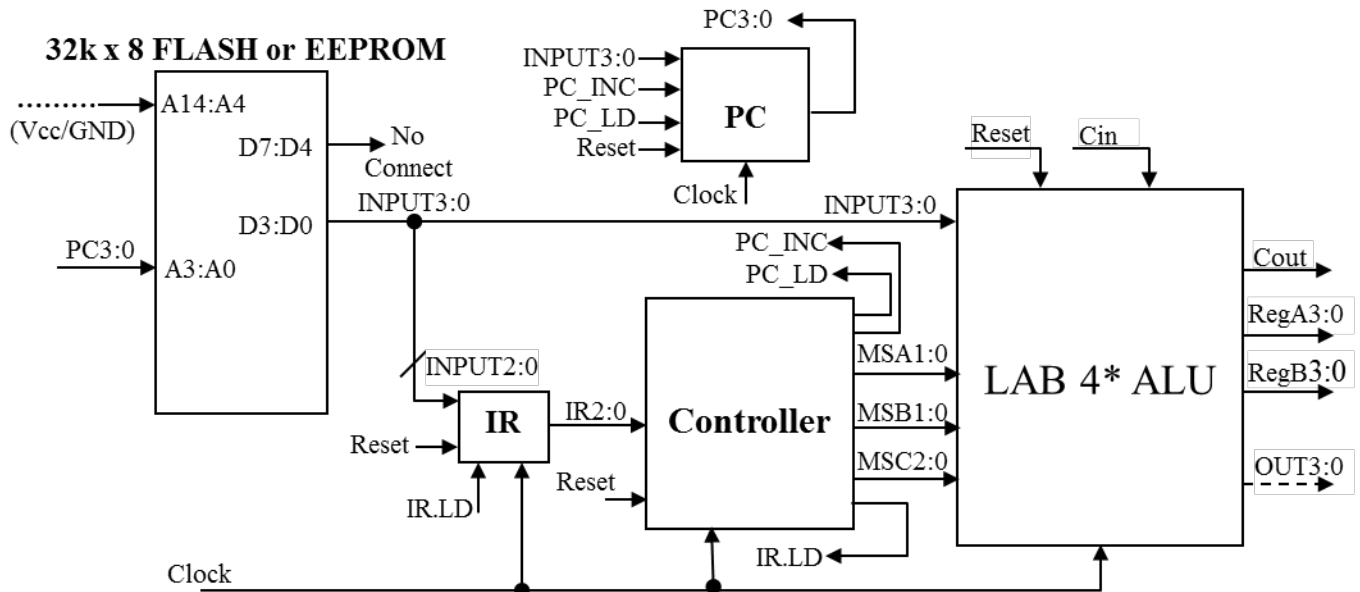

Figure 3. Block diagram of system hardware.
- As shown in Figure 3, a 32k x 8 **EEPROM (or Flash)** is added. The instructions and data will be stored in this EEPROM **starting in location \$4A50**. (See Pre-Lab question 1.)
- A program counter (PC) is added. PC is a 4-bit up-counter with a synchronous count enable signal (PC_INC). If PC_INC is TRUE, the counter will increment by 1 at the next active clock transition. If PC_INC is FALSE, the counter holds its current value. The count after 1111 is 0000. Another synchronous signal, PC_LD, is used to load the counter from the INPUT bus. The 74'161 (with **asynchronous** clear) is ideally suited to function as a 4-bit PC.